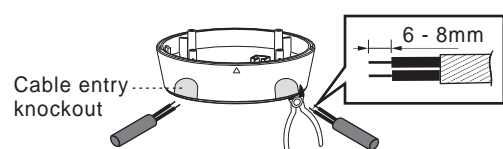

FIG.16
3.3.4.2 To feed power cables through the side of junction box, please use the cutting pliers to break the side cable entry knockouts, then insert cables into junction box and feed through it. Please strip off 6 - 8mm of cable sheathing for wiring (See FIG.16).